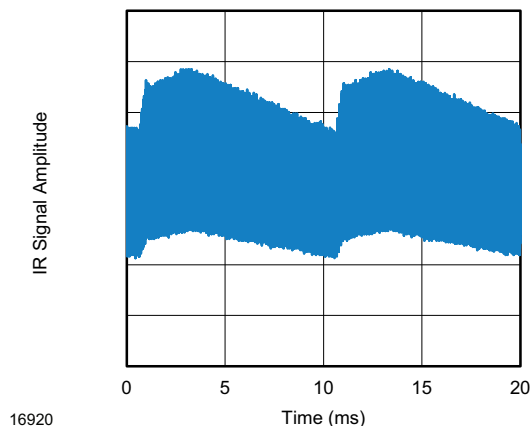
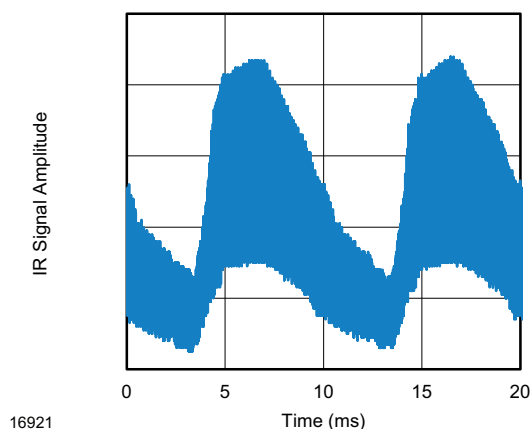

Fig. 13 - IR Disturbance from Fluorescent Lamp With Low Modulation
Fig. 14 - IR Disturbance from Fluorescent Lamp With High Modulation
- Strongly or weakly modulated noise from fluorescent lamps with electronic ballasts (see Fig. 13 or Fig. 14)